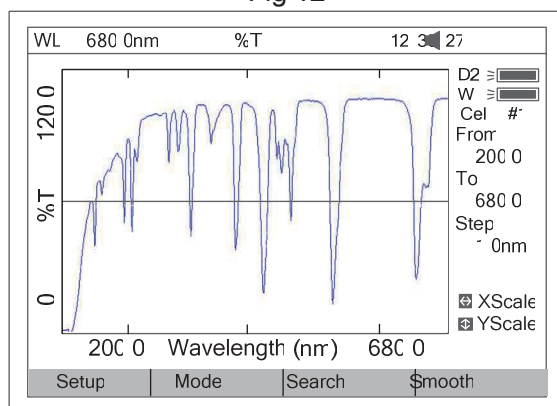

Fig 13
1. The key **【ENTER】** be pressed, the file selected will be opened and displays on the screen. Fig 13.
- ✧ Press the key **【SAVE】** in Fig13 to save curve.